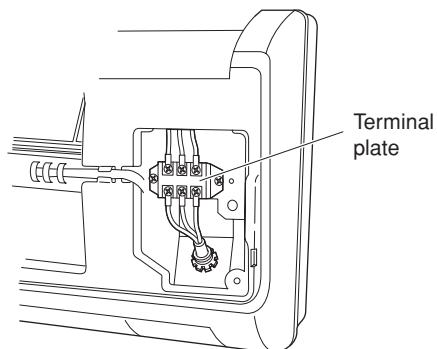

Fig. 26a
- (4) Route the inter-unit wiring from the back of the indoor unit and pull it toward the front for connection. (Figs. 26a and 26b) while referring to the wiring diagram.
- (5) Connect the inter-unit wiring to the corresponding terminals on the terminal plate (Figs. 26a and 26b) while referring to the wiring diagram.
- (6) Be sure to secure the wiring with the provided clamp.